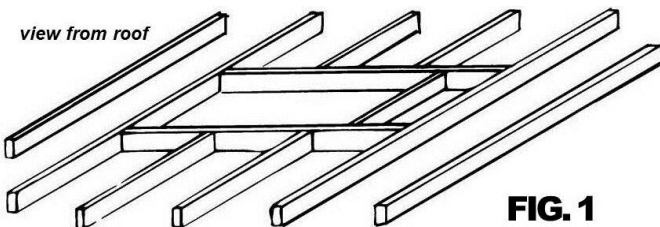

FIG. 1
**STEP TWO:** *What you need to make the opening – Timber Joist (Fig. 1 and Fig. 2):* Timber, MPG10, 90x45mm pine or hardwood, about four (4) metres for the 'Access-Boss' Series and about five (5) metres for the 'Big-Boss' Series will be enough. Pick a straight piece with minimal knots, and about 2 doz. 90mm long nails.